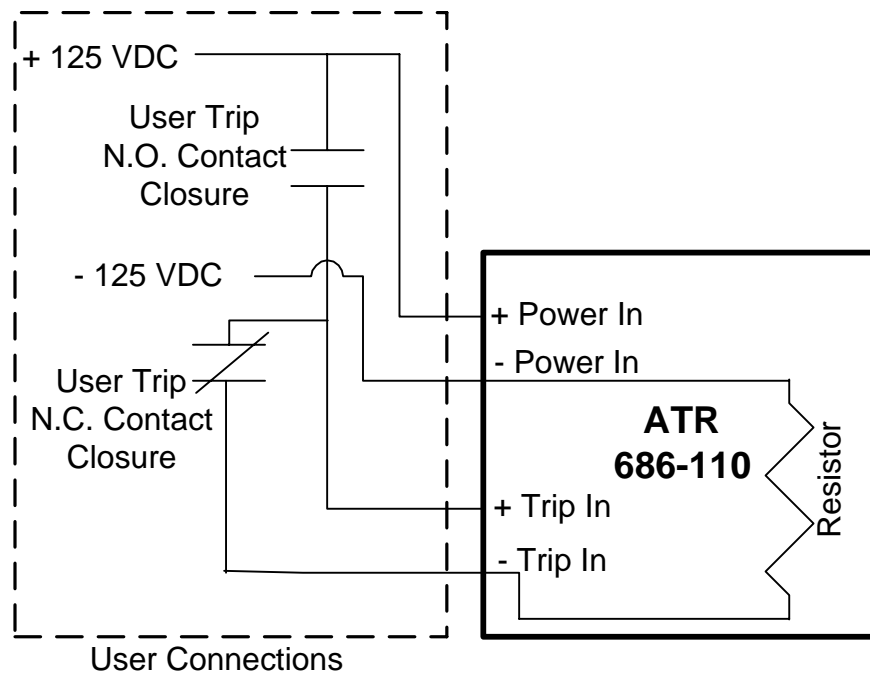

Figure 1b Input Contact for ATR 686-110
2. The 686-110A is designed to facilitate the use of both a normally open and normally closed input switch. This type of operation (as shown in Figure 1b) is most often used in sudden pressure relay applications.